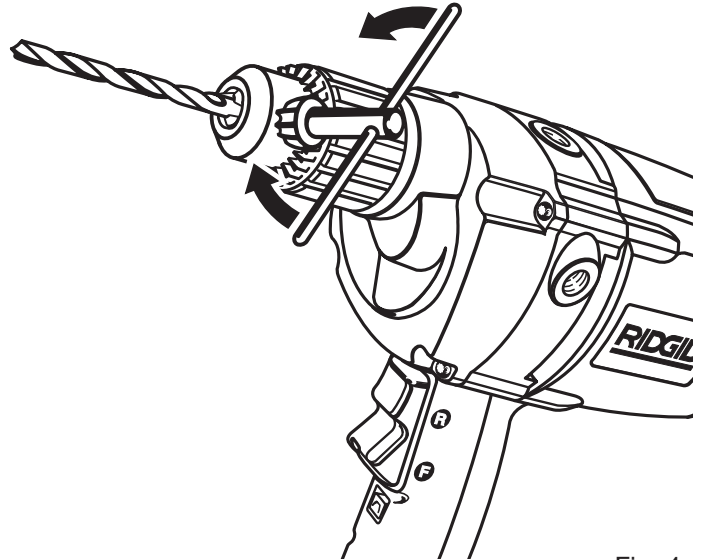

Fig. 4
See Figure 4.
- Insert the chuck key and twist counterclockwise as shown in figure 4.